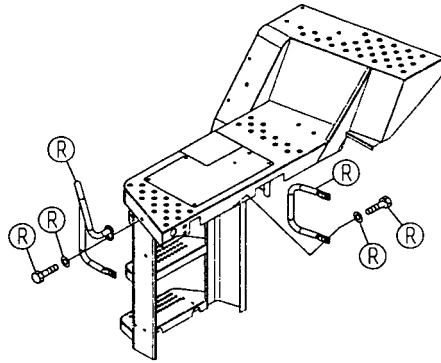

Fig. 4
(3) Removing the right handrail and ladder
- The parts that must be removed are shown in Figs. 4 and 5.